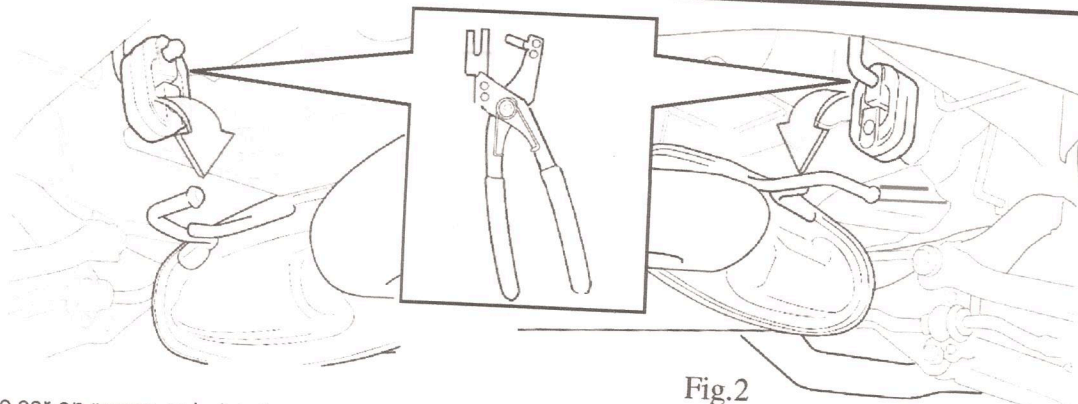
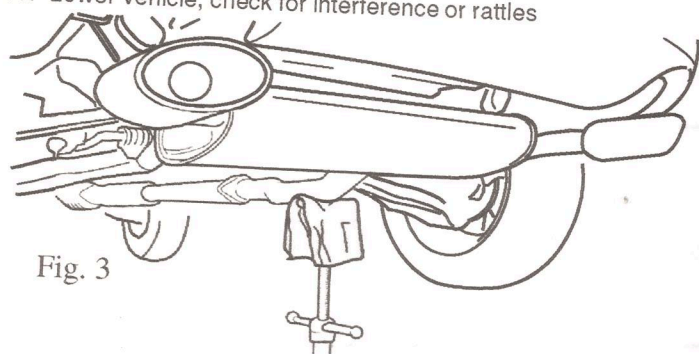

Fig. 2
Fig. 3
2. Remove the four (4) rubber exhaust hanger brackets (fig. 2) using tool as shown or similar. Support exhaust (fig.3).